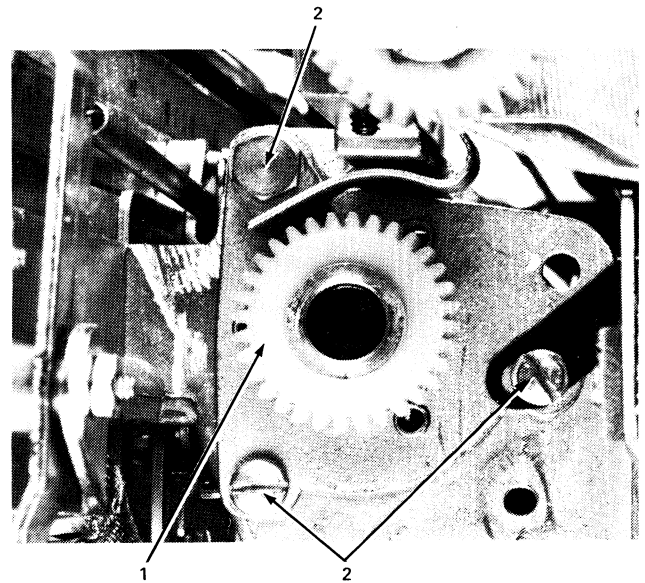

Figure 4-11. Belt Replacement (Cycle Shaft Bearing Plate Exposed)
8. Remove the cycle shaft gear (No. 1, Figure 4-11).
9. Remove the three cycle shaft bearing plate screws (No. 2, Figure 4-11) and remove the bearing plate. Leave the cycle shaft in place.